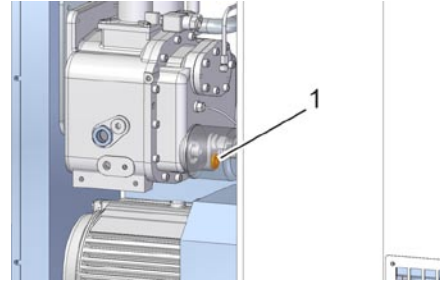

Fig. 33: Oil drain
5. Open the oil drain (Fig. 33/2).
6. Close the oil drain (Fig. 33/2).